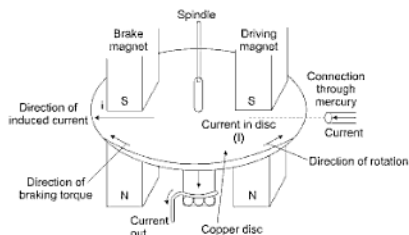

Fig. 4.18
- (i) The armature consists of a thin metal disc rotating in a bath of mercury, this mercury being used to lead the current into and out of the disc as shown in Fig. 4.18.